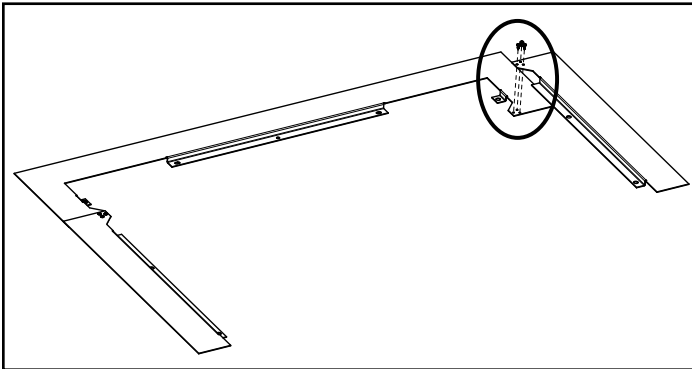

Figure 22.2
3. Repeat steps 1 and 2 for Surround Extension LH Side (**Figure 22.2**).